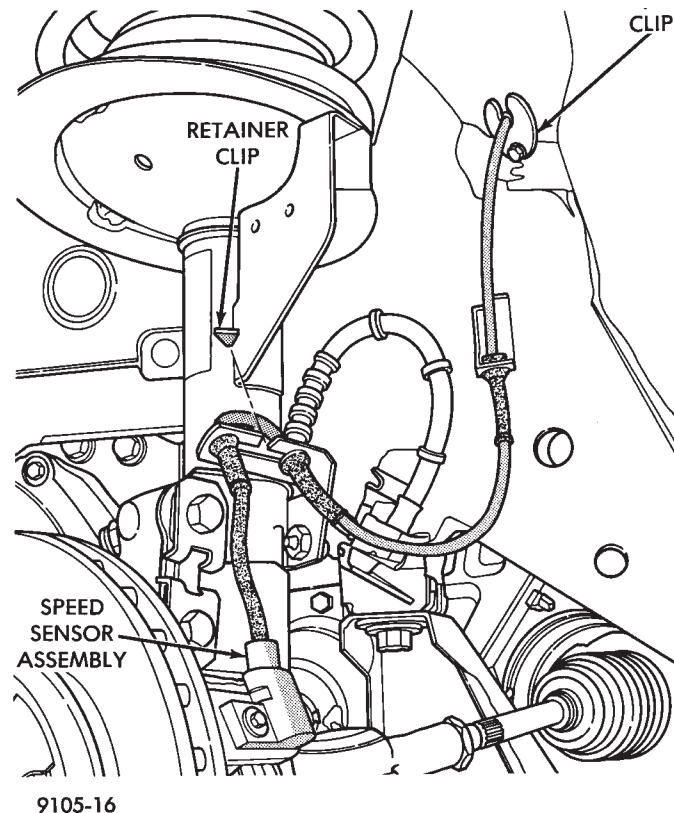

Fig. 11 Front Wheel Speed Sensor Routing
(1) Raise vehicle and remove front wheel and tire assembly.
(2) Remove screw from clip (Fig. 11) that holds sensor assembly grommet into fender shield.
(3) Carefully, pull sensor assembly grommet from fender shield. **When removing grommet from fender shield, do not pull on speed sensor cable.**
(4) Unplug speed sensor cable connector, from vehicle wiring harness.
(5) Remove the 2 screws (Fig. 11) that secure the speed sensor cable, routing tube to the fender well.
(6) Remove the 2 sensor assembly grommets from the retainer bracket, on the strut damper (Fig. 11).
(7) Remove speed sensor assembly to steering knuckle attaching bolt (Fig. 11).
(8) Carefully, remove sensor head from steering knuckle. If the sensor has seized, due to corrosion, use a hammer and punch to tap edge of sensor ear
- (1) Connect the wheel speed sensor cable connector, to the vehicle wiring harness.
- (2) Push sensor assembly grommet into hole in fender shield. Install clip and screw (Fig. 11). Torque screw to 4 N•m (35 in. lbs.).
- (3) Install speed sensor cable grommets in bracket on strut damper (Fig. 11).
- (4) Install speed sensor cable routing tube to fender well (Fig. 11). Torque both screws to 4 N•m (35 in. lbs.).
- (5) Coat the speed sensor with High Temperature Multi-purpose E.P. Grease before installing into the steering knuckle. Install speed sensor attaching screw and tighten to 7 N•m (60 in. lbs.).